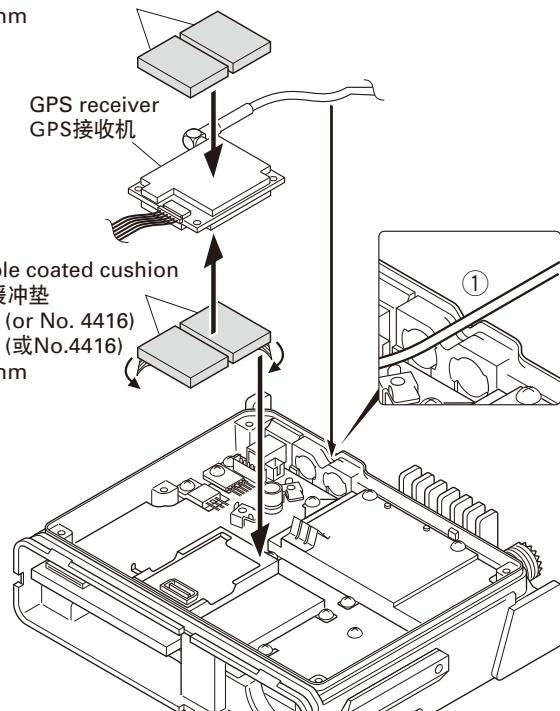

Fig. 6-2 / 图 6-2
4. Attach the GPS receiver to the shield case with two cushions as shown in Figure 6-2.
6. Place the GPS antenna cable in the hollow at the rear of the chassis. (Fig. 6-2 ①)
4. 如图 6-2 所示, 用两块缓冲垫将 GPS 接收机安装到屏蔽罩。
6. 将 GPS 天线放入底座后部的凹槽。(图 6-2 ①)